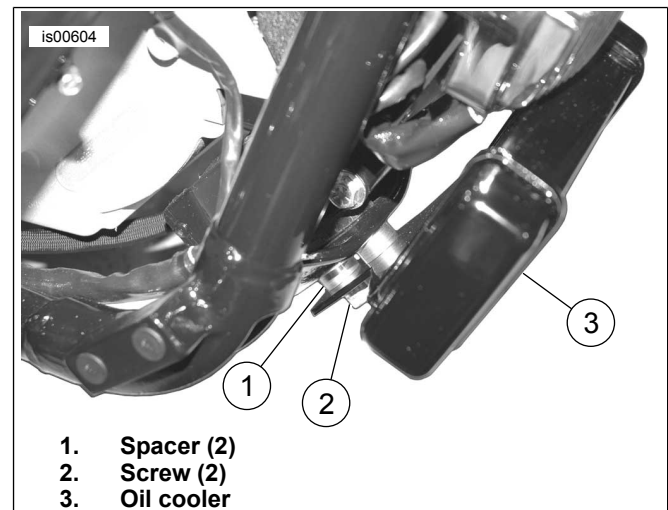

Figure 2. Oil Cooler
8. See Figure 2. Install the oil cooler (5) to the frame using two socket head cap screws (6), two washers and lock washers (removed in previous step) and two spacers (4) from the kit. Tighten to 28–36 N·m (21–27 ft-lbs).